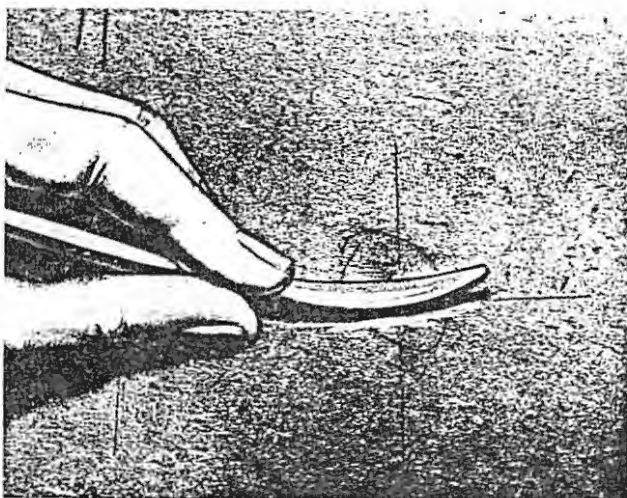
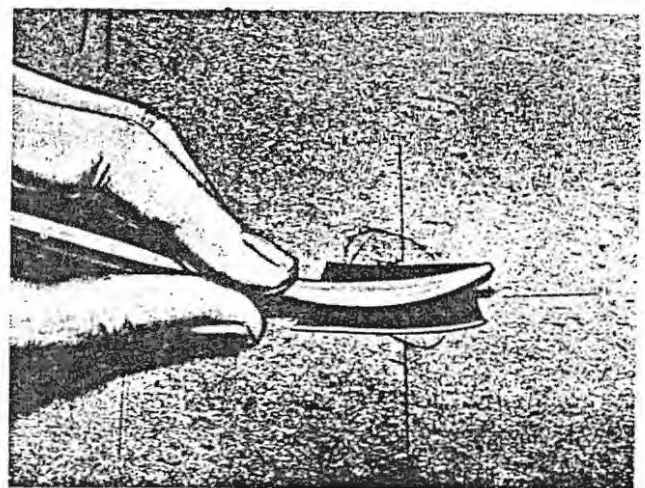

Figure 5-60. Filing Tool Application
Figure 5-61. Emery Cloth Application
2. Work out the abrasion using the file with the cut most convenient. File in a direction parallel to the scratches. (See figure 5-60.) Blend in the reworked area with the original blade surface by filing to form a saucer-shaped depression being careful to remove all traces of the damage. The depression must not exceed the dimensions stated in previous paragraphs. Remove all traces of the file marks with No. 120 emery cloth followed by No. 240 emery cloth, leaving a polished surface. The applications of the emery cloth can be facilitated with the use of a riffler as shown in figure 5-61.